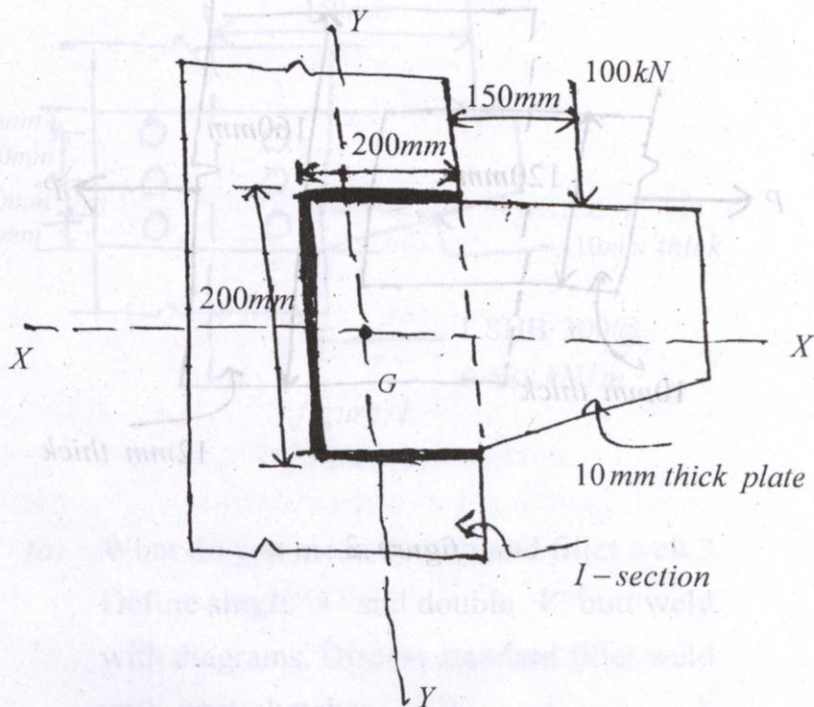

fig. 3
4. (a) A 10mm thick plate has been connected with the flanges of an I-section by applying 8mm fillet weld as shown in fig.3. A load of 100kN is placed eccentrically at a distance of 150mm from the flange. Check the safety of the joint. 12